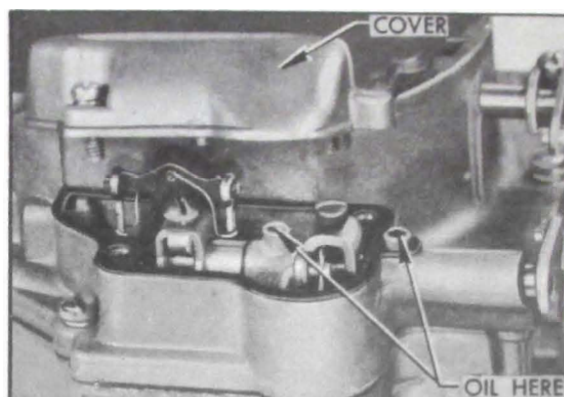

Figure 1-10—Countershaft Lubrication—Carter 2-Barrel
3. *Pump Operating Countershaft — Carter Carburetor Only.* On 2-barrel carburetors, remove dust cover and apply oil in two oil holes above countershaft. See figure 1-10.